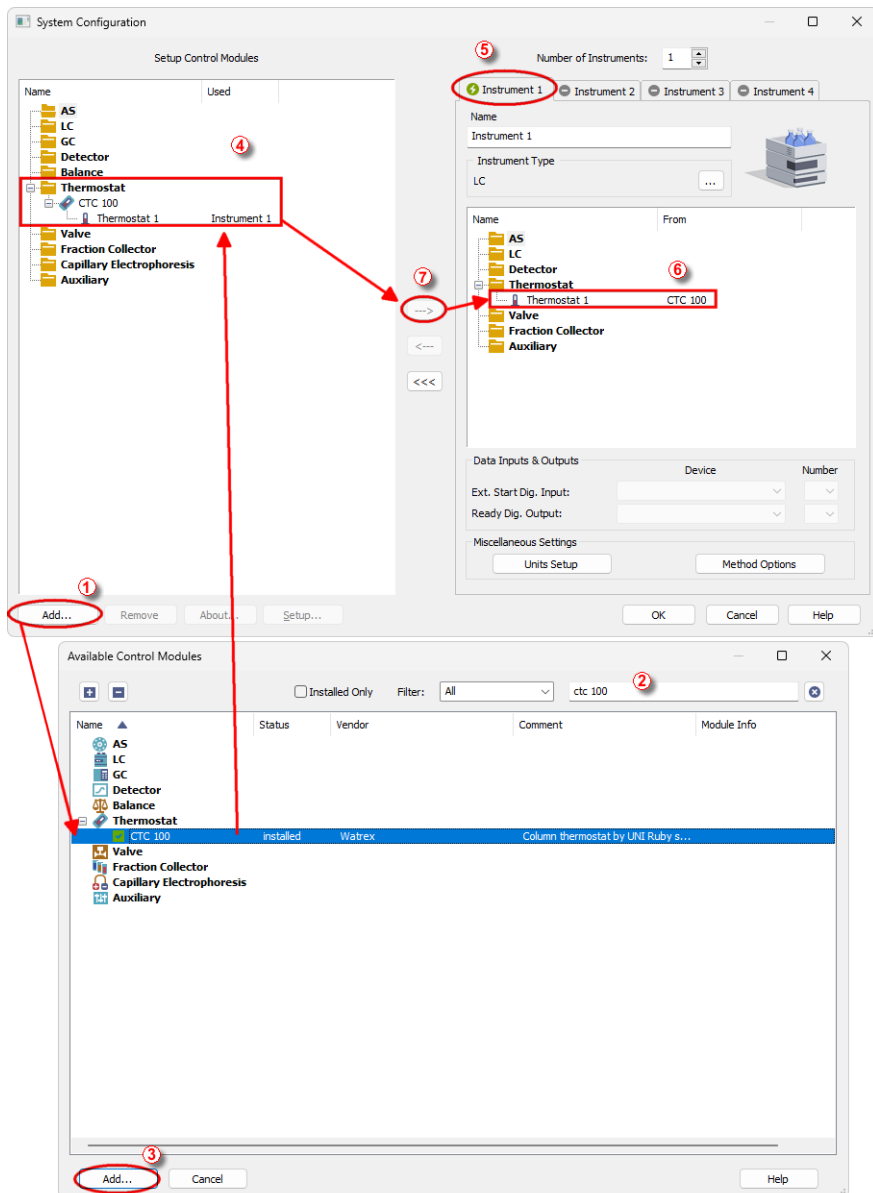

Fig. 2: How to Add Watrex CTC 100
- Press the **Add** button (① on **Fig. 2** on pg. 4.) to invoke the *Available Control Modules* dialog.
- You can specify the search filter (②) to simplify the finding of the driver.
- Select the correct item and press the **Add** (③ on **Fig. 2** on pg. 4.) button. Each device with already created UNI profile should have its own item named accordingly in the *Available Control Modules* dialog.